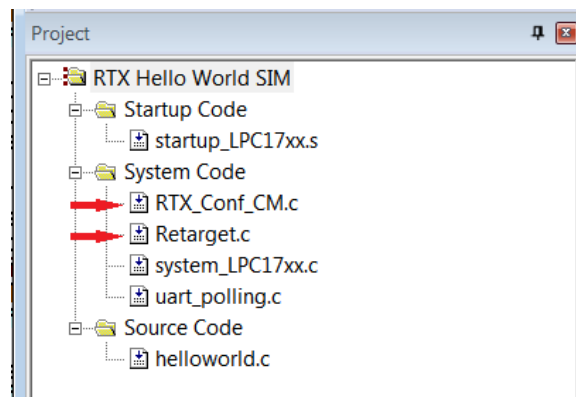

Figure 1.14: Keil IDE: RTX HelloWorld Project Files
3. To configure the RTX kernel by modifying source code of `RTX_Conf_CM.c`. Figure 1.14 is the HelloWorld RTX project setup. Comparing it with the non-RTX μ Vision HelloWorld application used in the warm-up exercises, `RTX_Conf_CM.c` and `Retarget.c`¹ are two new files added to the project.